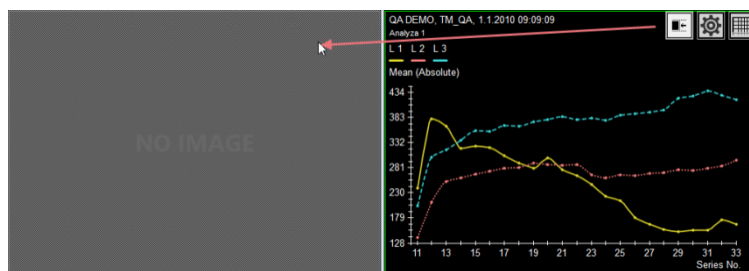

Figure 407 – Linking left segment with analysis chart
2. Drag the mouse cursor over a segment to be linked. The segment will be highlighted (see Figure 407).